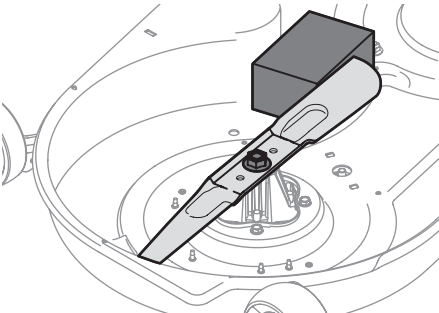

Fig. 50
2. Place a block of wood between the deck housing baffle and the cutting blade to act as a stabilizer (Fig. 50).
- Place a block of wood between the deck housing baffle and the cutting blade to act as a stabilizer (Fig. 50 on page 32).